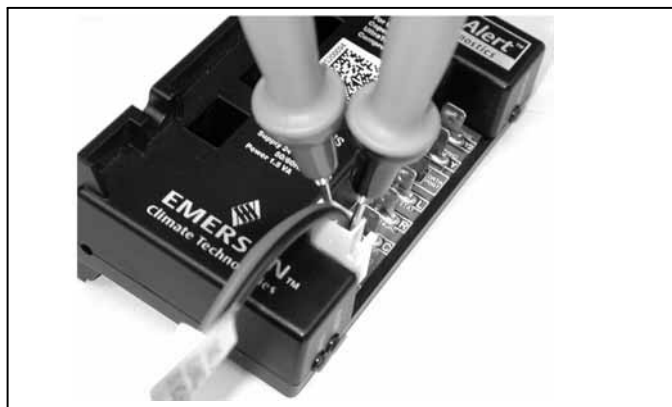

FIGURE 9
- 2-. Insert lead wires from voltmeter into back of the red and black wire plug jack that feeds power to compressor solenoid coil. Set voltmeter to DC volt scale to read DC voltage output from LSOM II plug. See figure 9.